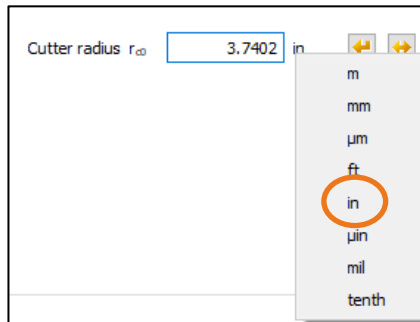

Figure 15. Switching the unit to «inch»
7. In the «**Process**» tab, select «**Face milling (single indexing method)**» as the manufacturing process and then input the «Cutter radius». We recommend you use the sizing function  to the right of the «Cutter radius» input field to get a suggested value for the minimum cutter tip size (in accordance with Klingelberg «Bevel gears», page 70) and then enter the cutter tip radius that was actually used, from Production. Click the right-hand mouse button to select the unit «inch»: this is usually used for Gleason cutters (see Figure 15).